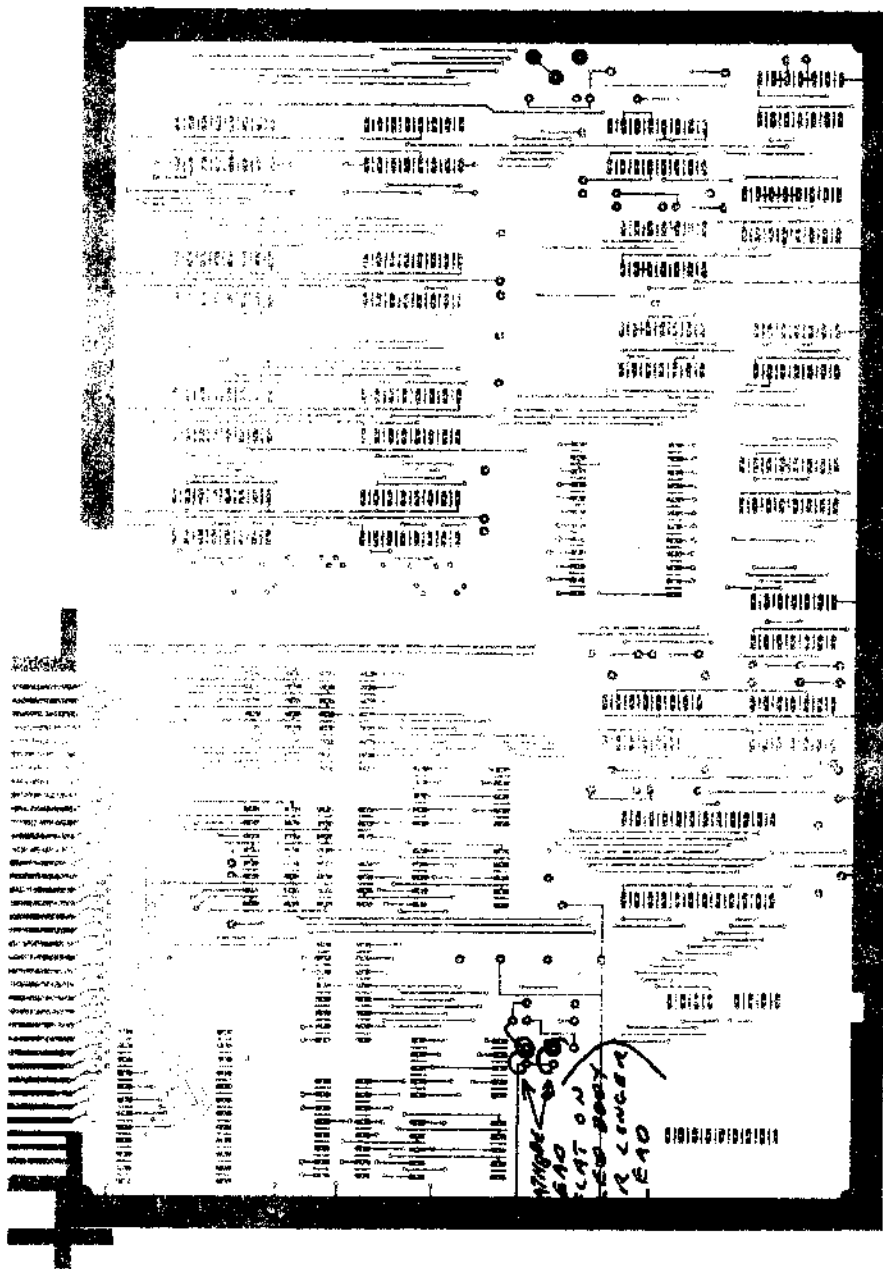

Figure 6. LED Installation
- (-) Remove the two LEDs. These are small 1/8 inch diameter Light Emitting Diodes. Install them at the location and as indicated in Figure 6. The cathode lead can be identified by a flat portion on the base of the LED next to the cathode or by the fact that the cathode lead is longer. Support the leads at the base where they leave the body of the LED and bend them back so that the entire assembly can be inserted from the rear of the circuit board. The 1/8 inch holes in the board may have to be enlarged slightly by reaming them with a 1/8 inch drill or a craft knife. Align the leads with the holes indicated in Figure 6 and slide the entire assembly down so the rim of the LED is flush with the back surface of the board. Solder the leads from the solder side. Turn the board over and trim the leads flush with the component side.
- ( ) Remove four FND500 seven segment displays. To protect the faces, it is recommended that a piece of masking tape be cut to size and applied before actual assembly of the devices to the board. The top of each FND500 is identified by four (4) notches. The devices should be installed in the locations marked DISP1, DISP2, DISP3, and DISP4 with these notches oriented toward the edge connector. The leads of each device are spread slightly but by inserting one row of leads partially through the board and forcing the device gently in that direction, the other row of leads should be easy to insert. Once inserted, turn the board over and solder diagonally opposite corners of each device. Now apply finger pressure to the center of each device and melt the solder to allow the device to be pressed flush to surface of the board. Solder all leads.